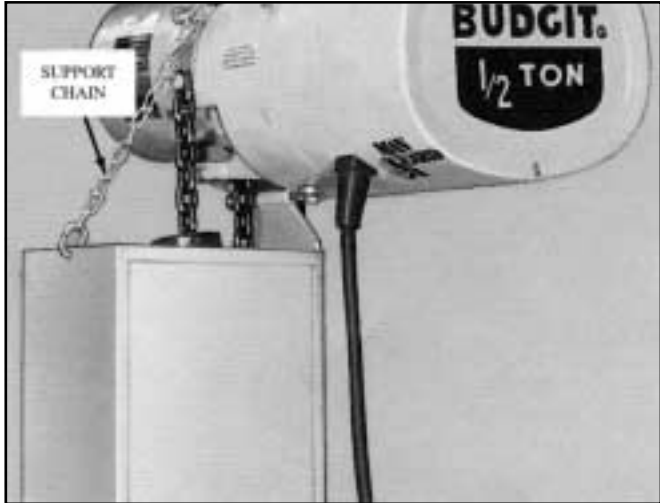

Figure 5. Complete Installation
6. Attach loose end of support chain to upper hanger bracket using round stove head bolt and self-locking nut. See Figure 5. Be certain container hangs parallel to load chain as illustrated in caution label shown in FIGURE 6. Make adjustment in chain at upper hanger bracket if necessary.